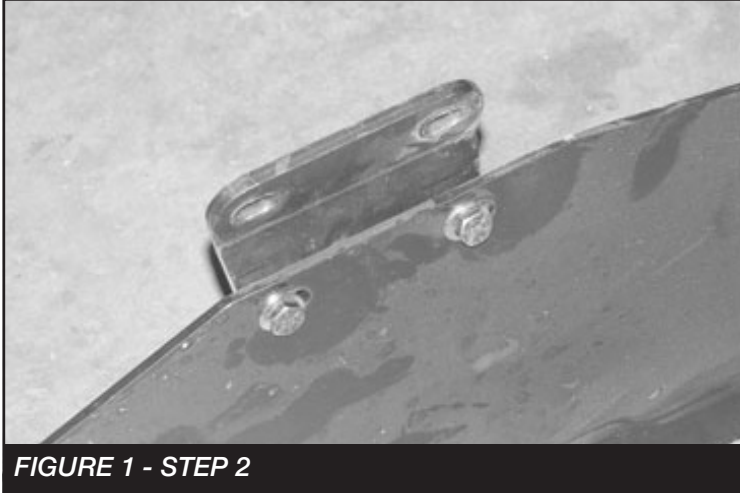

FIGURE 1 - STEP 2
2. Locate the skid plate (FT20732BK) and the frame mount (FT20497BK). Connect the frame mount to the skid plate using the supplied 3/8" hardware, leave loose. **SEE FIGURE 1**